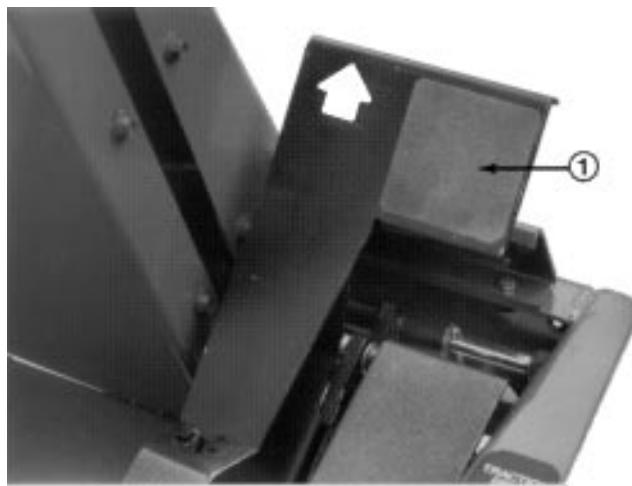

Figure 20
**Traction Pedal** (Fig. 20) — Traction pedal has two functions: one is to make the machine move forward, the other is to make it move rearward. Using the heel and toe of the right foot, depress top of pedal to move forward and bottom of pedal to move rearward. Ground speed is proportionate to how far pedal is depressed. For maximum ground speed, traction pedal must be fully depressed while throttle is in FAST position. Maximum speed forward is 10 mph (16 Km/hr) (approx.). To get maximum power under heavy load or when ascending a hill, have throttle in FAST position while depressing traction pedal slightly to keep engine rpm high. When engine rpm begins to decrease, release traction pedal slightly to allow rpm to increase.